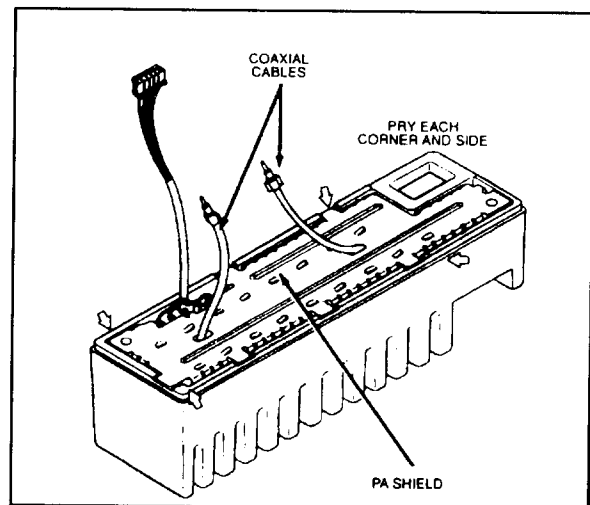

Figure 7.
(1) Remove the power amplifier shield by carefully prying each corner and side until you can slide the shield off easily (figure 7). Remove the shield completely by guiding the coaxial cables out.